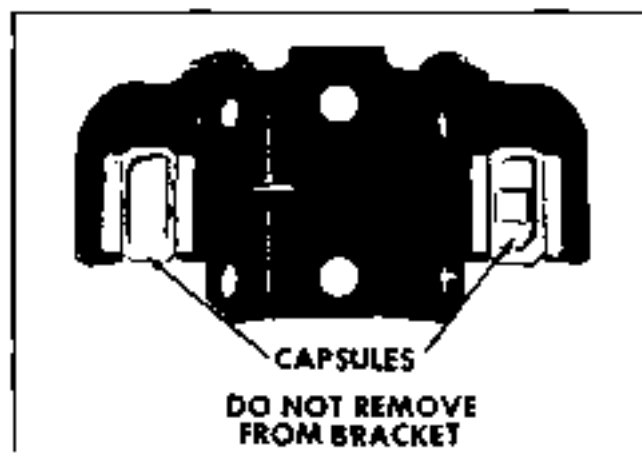

Fig. 9-15 Mounting Bracket Assembly
1. Remove four bolts attaching column mounting bracket. Set bracket aside to protect breakaway capsules (Fig. 9-15).